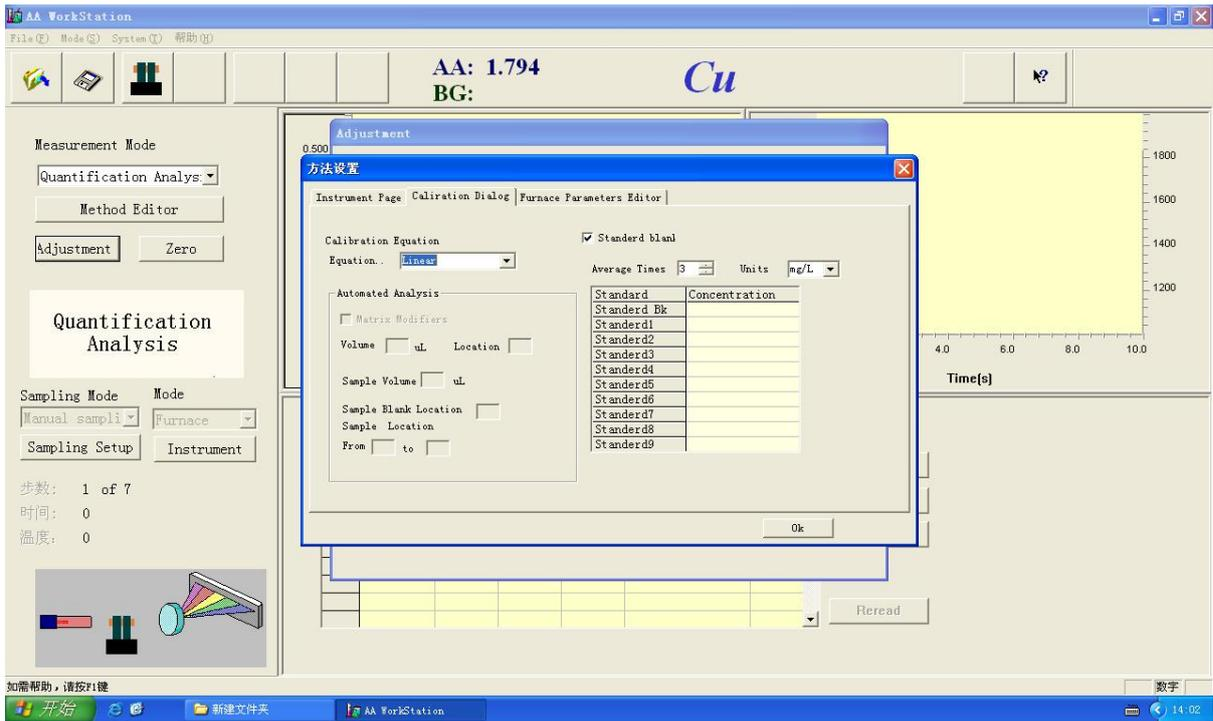

Figure 5-2
4. Press **【Method Editor】**, open "Calibration Dialog" window (Figure 5-2)